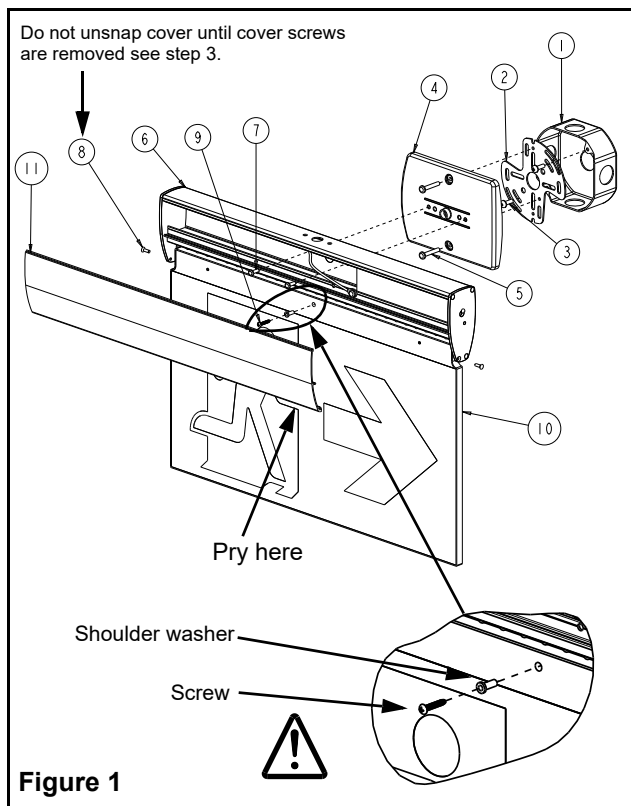

Figure 1
3. Remove the 2 bottom screws (8) from the cover front and set aside to reinstall later. (See Figure 1)
4. Manually unsnap cover (11) by lifting the bottom of the cover and remove.
Note: if the cover is too difficult to lift, use a flat head screw-driver to gently pry the cover at the point indicated in Figure 1.
### Wall Mount (See Figure 1)
Screw and shoulder washer (item 9 in Figures 1 & 2) must be installed to secure panel and prevent slippage during installation and maintenance.